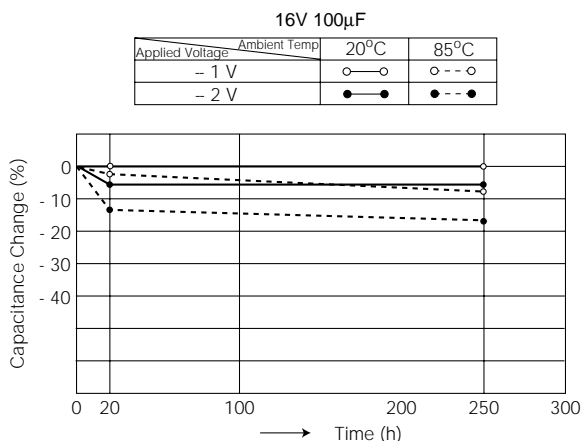

Fig. 2-3 Capacitance vs. Reverse Voltage Characteristics
- 2) In case of a low reverse voltage and a low leakage current, a capacitor initially generated heat due the power loss. But the progressing formation of an oxide layer on the cathode electrode causes a decrease in current. Fig. 2-3 shows how the capacitance changes relative to the application of reverse voltage. The results shown in the figure is due to the decrease in cathode foil capacitance caused by oxide layer formation on the surface of the cathode aluminum foil. Again due to the consumption of electrolyte, the $\tan \delta$ increases.